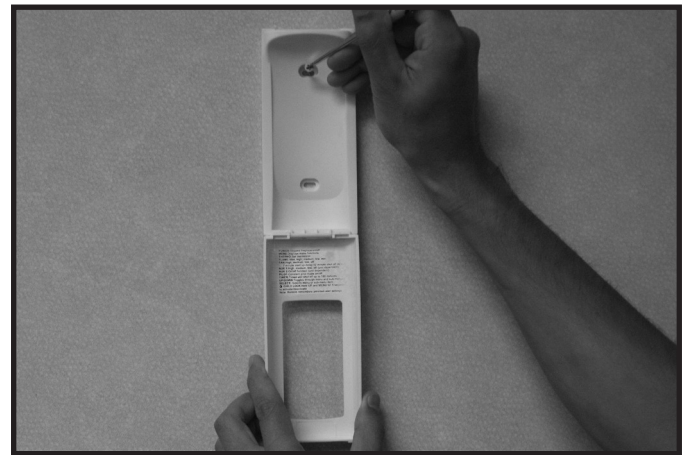

Figure 12.5 Mounting Remote Control Housing
3. Secure the remote control housing on a flat wall surface using the two screws and wall anchors provided. See Figure 12.5.